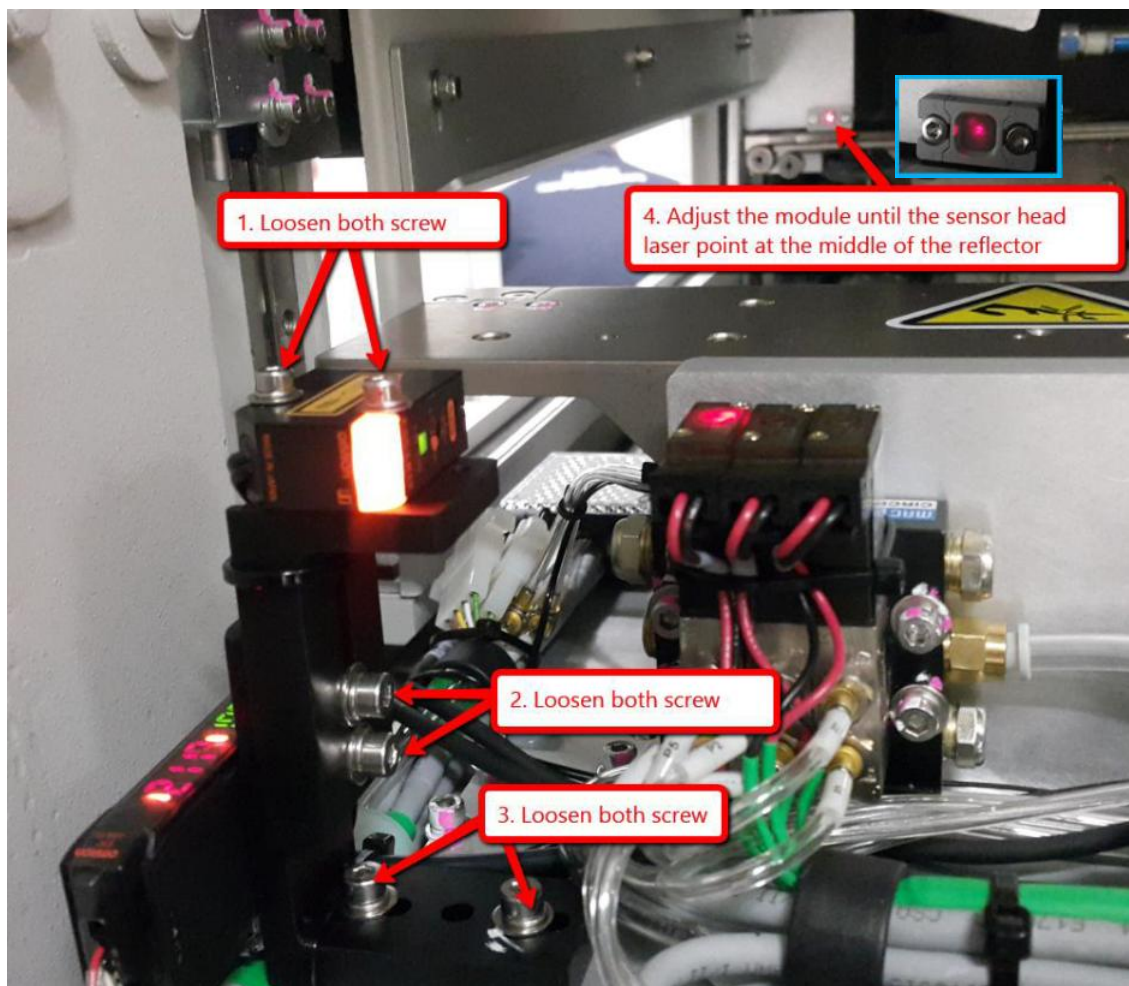

Figure 11 Filter Height Sensor Module Re-positioning
1. While XY Stage at Loading position, Loosen screws which mention in Figure 11 .Adjust filter sensor head until sensor spot is within middle of reflector as shown in the Figure 11.Tighten all screws